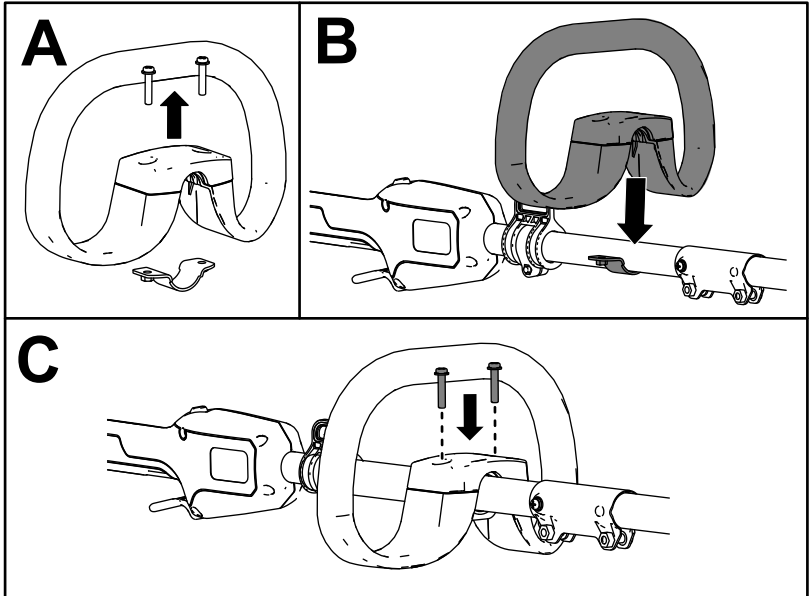

Figure 4
1. Using a Phillips head screwdriver, separate the auxiliary handle from the handle plate by removing the 2 screws (A of Figure 4).
2. Align the auxiliary handle with auxiliary handle plate on the trimmer shaft (B of Figure 4).
3. Secure the auxiliary handle to the handle plate with the 2 previously removed screws (C of Figure 4).